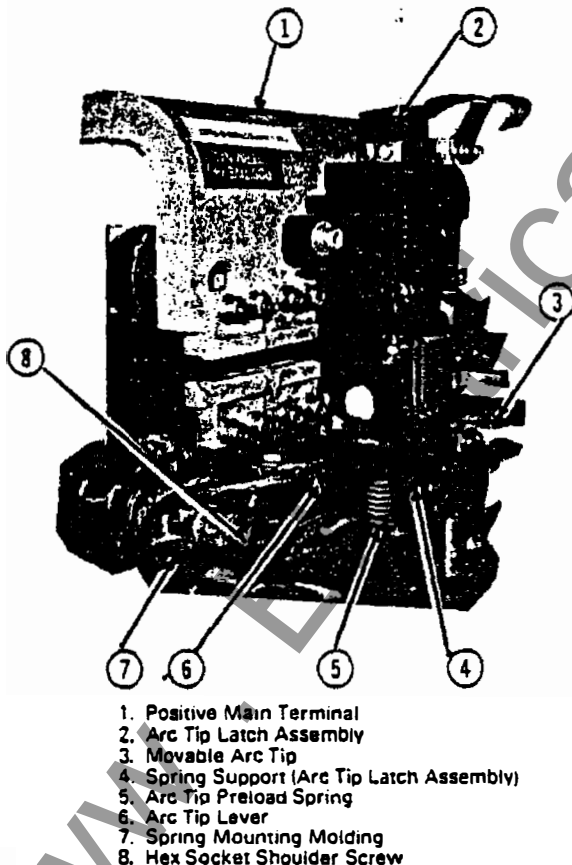
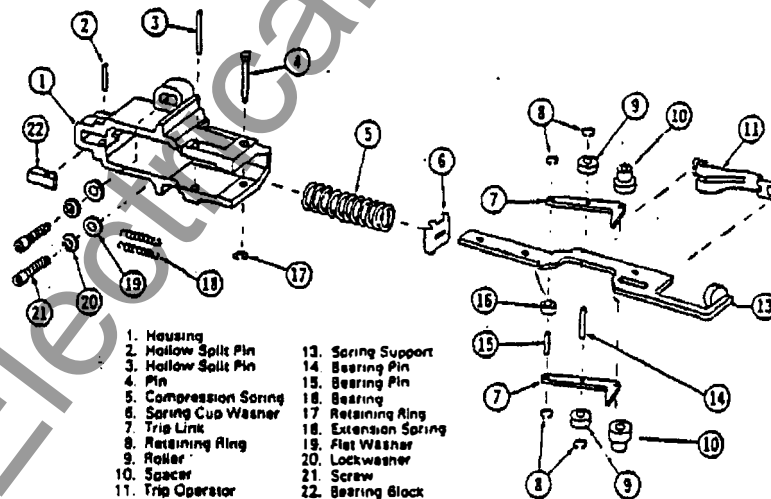

Fig.17 - Arc Tip Latch Assembly
Fig. 18 - Arc Tip Latch Assembly, Exploded View
3. Remove two screws securing the arc tip latch assembly (2, Fig. 17) to the positive main terminal (1). Remove latch assembly from contactor.
In Step 3, never trip the arc tip latch assembly (2, Fig. 17) without restraining the spring support (4) because the resultant impact forces can permanently damage housing molding and other parts.
6. Push on free end of spring support (13 Fig. 18) with enough force to compress compression spring (5) slightly and remove pin (4). Be careful not to lose spacers (10 and 12).
7. Remove spring support (13 Fig. 18).
1. Lay spring support (13, Fig. 18) in slot in trip operator (11), holding trip operator (11) in place against the spring support (13). Insert flat end of spring support (13) through spring cup washer (6) and compression spring (5). Align flat end of spring support (13) with slot in housing (1). Push spring support into place.
2. Hold spring support (13, Fig. 18) in position by placing the assembly between the jaws of a large vise, blocks of wood nailed to a board, or similar means of retention.
3. Refer to Fig. 18 and assemble the following: bearing pin (15), bearing (16), both retaining rings (8), both rollers (9), and bearing pin (14) to both trip links (7). Place this assembly inside of housing (1) with one trip link (7) on each side of spring support (13). Align the holes in both trip links (7) with the hole that pin (4) goes through and the slot in the spring support (13).
4. Place spacers (10) in proper positions and secure with pin (4) and retaining ring (17).
5. Replace extension springs (18) and remove assembly from vise or holding fixture. Cover both ends of pin (4) and retaining ring (17) with RTV Compound for electrical insulation.
6. Position spring support (4, Fig. 17) over arc tip lever (6) and attach loosely to positive terminal (1) at this time.
2. Loosen screws (21, Fig. 18) securing arc tip latch assembly (2, Fig. 17) to positive main terminal (1). Screws must be tight enough to prevent free movement of arc tip latch assembly, but loose enough for arc tip latch assembly to be moved when tapped with a rubber hammer.
3. Position arc tip latch assembly (Fig. 17) by tapping with a rubber hammer so that the bearing (16, Fig. 18) has just enough clearance to allow the mechanism to latch. Secure with the two screws. Torque to 8-12 N.m (60-89 in-lbs).
After all adjustment are complete, close the main armature. Allow main armature to open slowly. Arc tip latch (Item 2 Fig. 17) must trip by the pull of main armature spring when the main contact gap is 3.81mm (.150") minimum and not less than 1.27mm (.050") from the full open position.